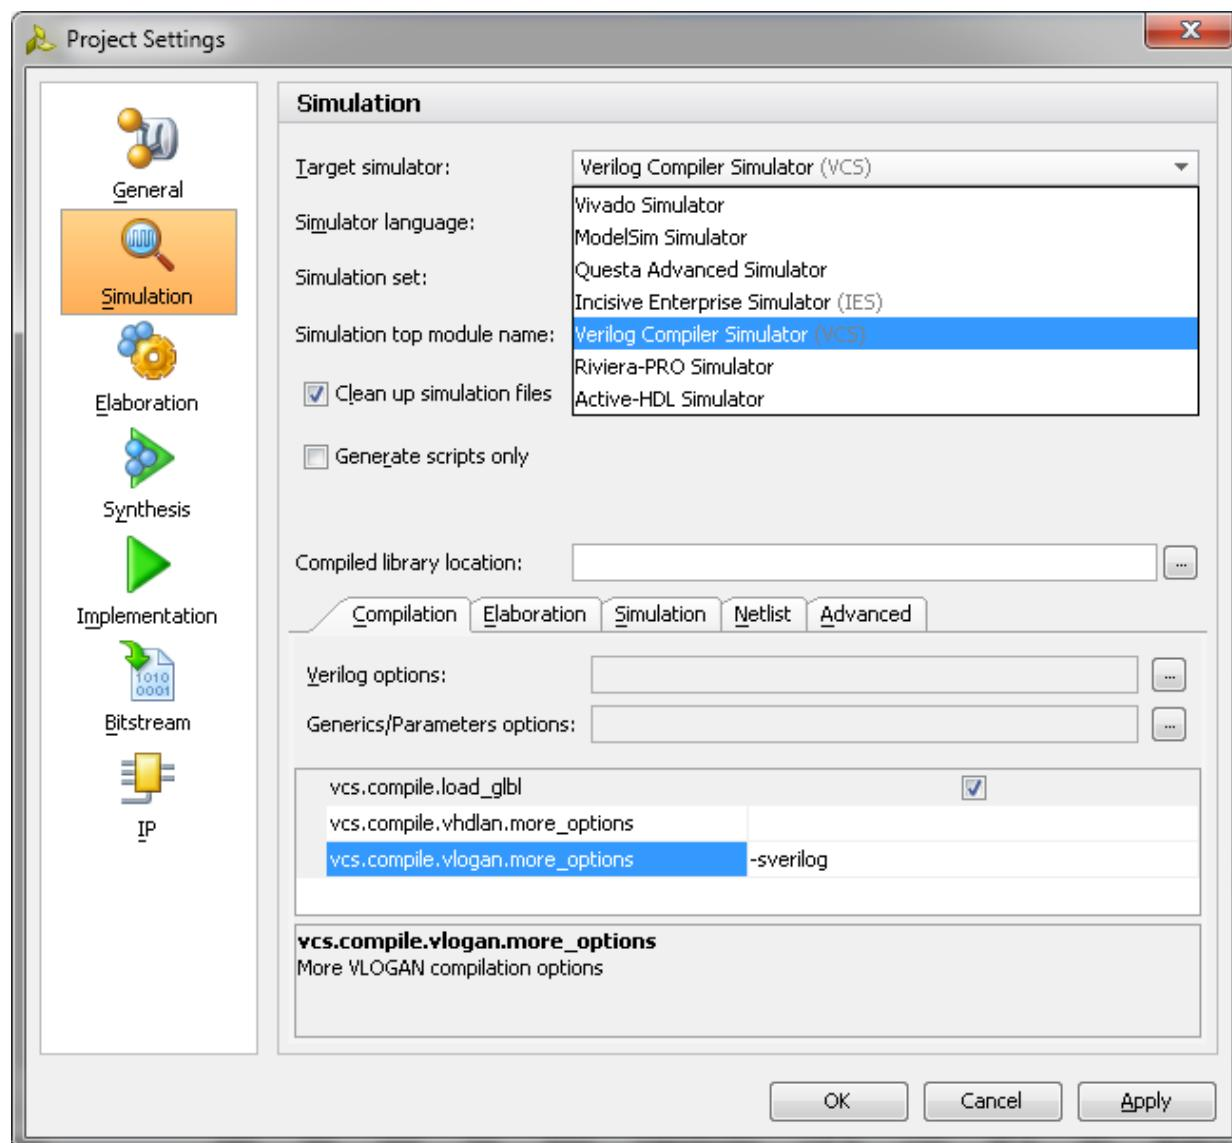

Figure 4-42: Simulation with VCS
- c. Under the **Simulation** tab, set the **vcs.simulate.runtime** to 1 ms (there are simulation RTL directives which stop the simulation after a certain period of time which is less than 1 ms) as shown in Figure 4-42.